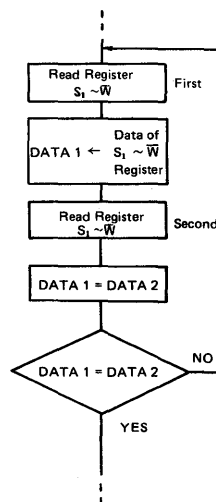

Figure 10. Reading and Writing of Registers $S_1 \sim W$
- b) BUSY (D1) – Status bit which shows the interface condition with microcontroller/microprocessors. As for the method of writing into and reading from $S_1 \sim W$ (address $\phi \sim C$), refer to the flow chart described in Figure 10.